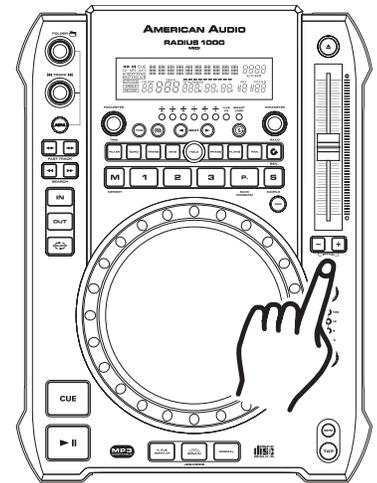

Figure 37
Adjusting the PITCH SLIDER'S RANGE (8): You may change the PITCH SLIDER'S (3) operating range at any time. To change the operating range be sure the pitch function is turned on, see figure 37. The pitch percentage range can be changed between +/-4%, +/-8%, +/-16%, and +/- 100%. 4% will allow the least amount of pitch manipulation and 100% will allow the most amount of pitch manipulation. To adjust the different ranges, press the PITCH ON/OFF BUTTON (6) and tap on the PITCH RANGE BUTTON (8) until your desired value is reached, see figure 39.